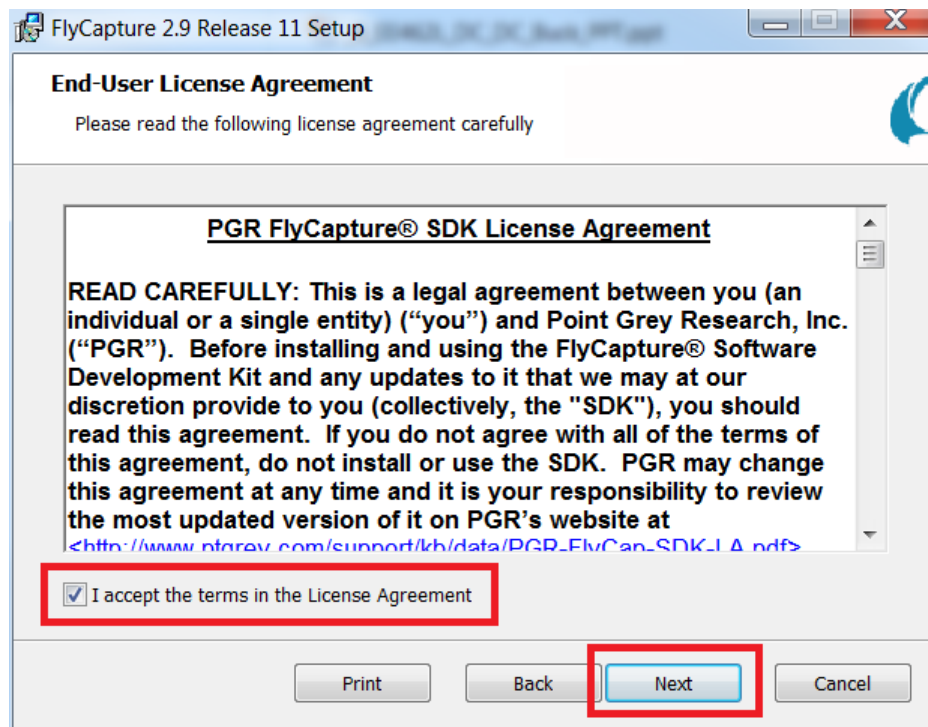

Figure 2-4. FlyCapture2 SDK Licensing Agreement
4. Read and accept or decline the end-user license agreement for the FlyCapture2 SDK as shown in Figure 2-4. If the license agreement is declined, the SDK will not be installed. Click the "Next" button to continue.